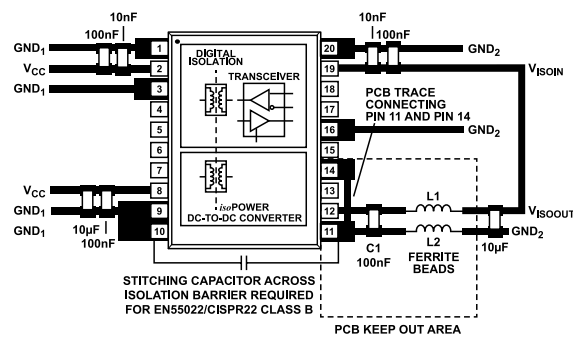

Figure 35. Recommended PCB Layout
The ADM2582E/ADM2587E isolated RS-422/RS-485 transceiver contains an *isoPower* integrated dc-to-dc converter, requiring no external interface circuitry for the logic interfaces. Power supply bypassing is required at the input and output supply pins (see Figure 35). The power supply section of the ADM2582E/ADM2587E uses a 180 MHz oscillator frequency to pass power efficiently through its chip-scale transformers. In addition, the normal operation of the data section of the *iCoupler* introduces switching transients on the power supply pins.
The ADM2582E/ADM2587E features an internal split paddle, lead frame on the bus side. For the best noise suppression, filter both the GND₂ pins (Pin 11 and Pin 14) and V_{ISOOUT} signals of the integrated dc-to-dc converter for high frequency currents. Use surface-mount ferrite beads in series with the signals before routing back to the device. See Figure 35 for the recommended PCB layout. The impedance of the ferrite bead is chosen to be about 2
- ▶ Do not connect the V_{ISOOUT} pin to a power plane; connect between V_{ISOOUT} and V_{ISOIN} using a PCB trace. Ensure that V_{ISOIN} (Pin 19) connects through the L1 ferrite to V_{ISOOUT} (Pin 12), as shown in Figure 35.
- ▶ Ensure that GND₂ (Pin 16) is connected to GND₂ (Pin 11) on the outside (bus side) of the L2 ferrite, as shown in Figure 35.
The ADM2582E/ADM2587E dissipate approximately 650 mW of power when fully loaded. Because it is not possible to apply a heat sink to an isolation device, the devices primarily depend on heat dissipation into the PCB through the GND pins. If the devices are used at high ambient temperatures, provide a thermal path from the GND pins to the PCB ground plane. The board layout in Figure 35 shows enlarged pads for Pin 1, Pin 3, Pin 9, Pin 10, Pin 11, Pin 14, Pin 16, and Pin 20. Implement multiple vias from the pad to the ground plane to reduce the temperature inside the chip significantly. The dimensions of the expanded pads are at the discretion of the designer and dependent on the available board space.